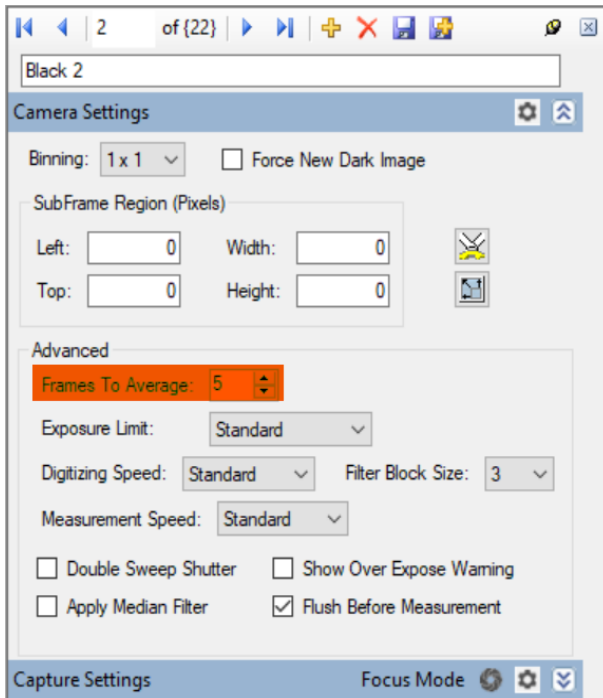

Figure 8 – Advanced camera settings.
4. Another option that can be used to mitigate PWM is to calculate the average of multiple measurements. Table 2 demonstrates the effects of this approach. To use this option, change the relevant test parameters found under **Settings/Advanced Options** (shown in Figure 8).